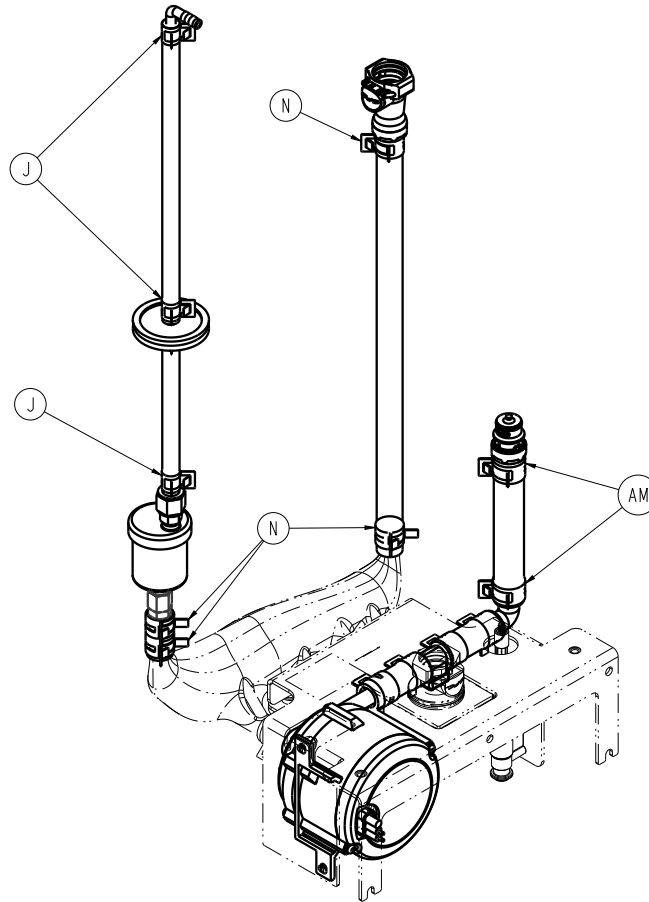

Figure 18 – Secure tubing
5. Using needle nose pliers, remove the two hose clamps (N) that secure the tubing to the reservoir (Figure 18). Save the clamps.